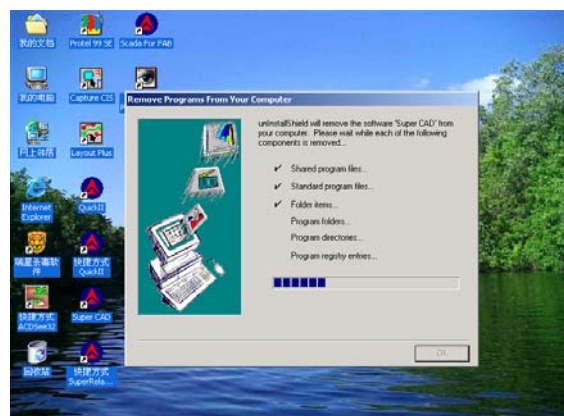

Fig. 1.11 Remove window of Super Relay
- When a Confirm Uninstall dialogue box, as shown in Fig. 1.11, appears, click **Yes**.